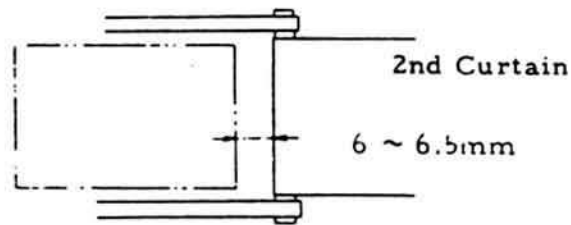

Fig. 6
- 2) When the mechanism is wound, the distance between the 2nd Curtain edge and the edge of the aperture should be 6 to 6.5mm. See Fig. 6